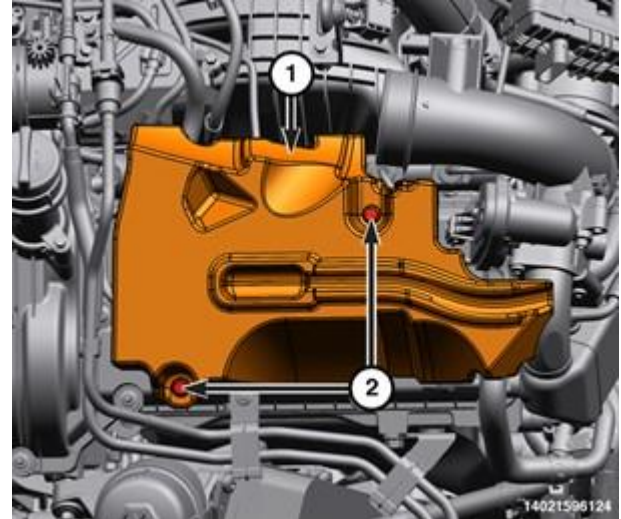

Figure 11 – Left Bank Fuel Rail Cover Bolts
18. Remove the bolts (2) and the left fuel rail cover (1) (Figure 11).